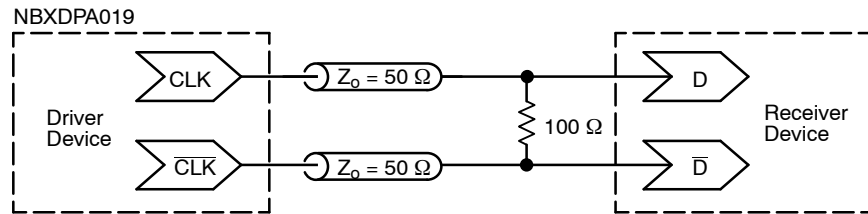

Figure 5. Typical Termination for Output Driver and Device Evaluation
- Measurement taken with outputs terminated with 100 ohm across differential pair. See Figure 5.
4. Measurement taken with outputs terminated with 100 ohm across differential pair. See Figure 5.